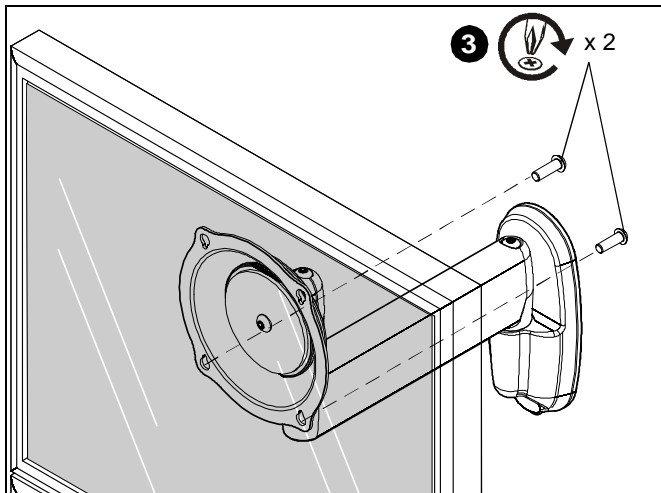

Figure 6
- Install two removed screws through lower mounting holes in display mounting plate and into display back. (See Figure 6)